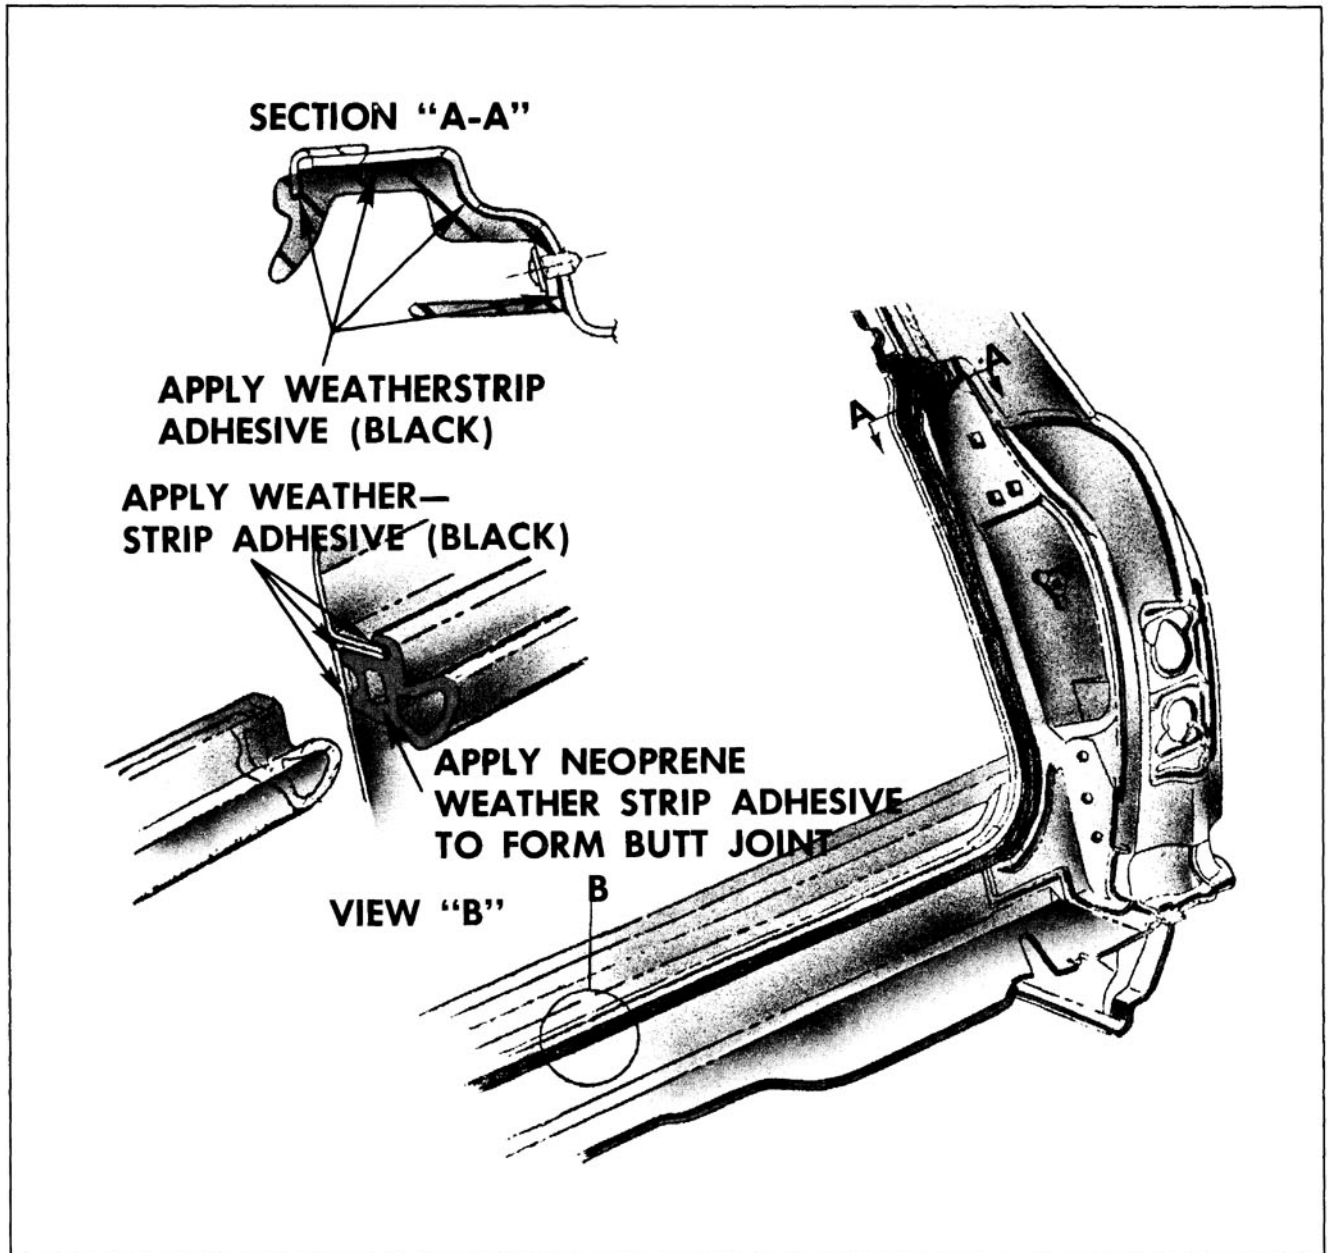

Fig. 16-482 Tailgate Weatherstrip
2. Apply (brush) a continuous coat of weatherstrip adhesive (black) to attaching surfaces of weatherstrip and corresponding cementing surfaces on back body opening. (Sections "A-A", "B-B", "C-C" Fig. 16-482)